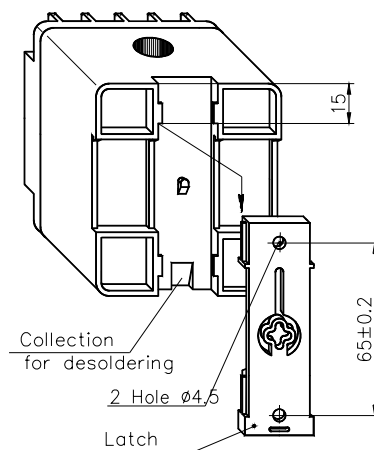

Figure C.2 Mounting on the panel
- fix a latch on the panel with the help of two screws according to figure C.2;